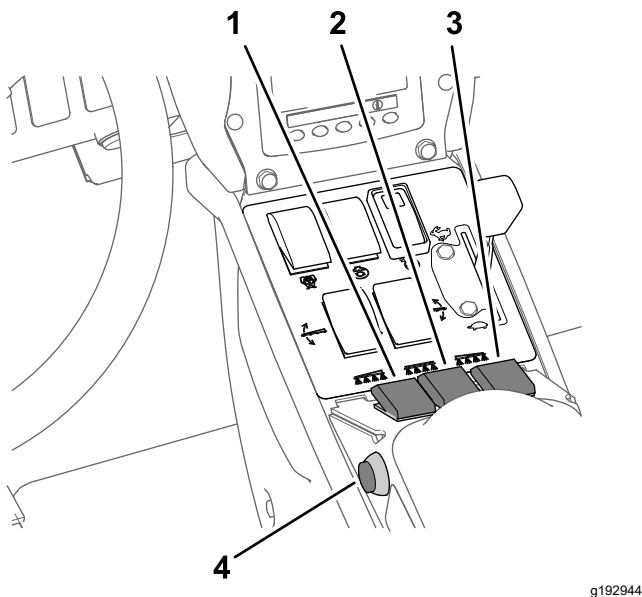

Figure 45
7. Set the spray section switch(es) to the ON position (Figure 45).
10. Drive at the desired speed and then set the master section switch to the ON position to begin spraying (Figure 45).
3. Set the master section switch to the OFF position; refer to Figure 45 in Spraying in the Application Rate Mode \(page 37\).
7. Set the individual section switches, as needed, to the ON position; refer to Figure 45 in Spraying in the Application Rate Mode \(page 37\).
9. Drive at the desired speed and then set the master section switch to the ON position to begin spraying; refer to Figure 45 in Spraying in the Application Rate Mode \(page 37\).